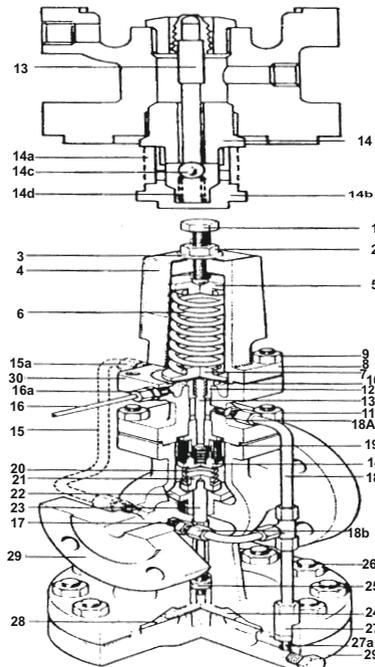

Figure 6: Routine Maintenance
7.3. Maintenance/Replacement Procedure : (Refer to Figure 6)